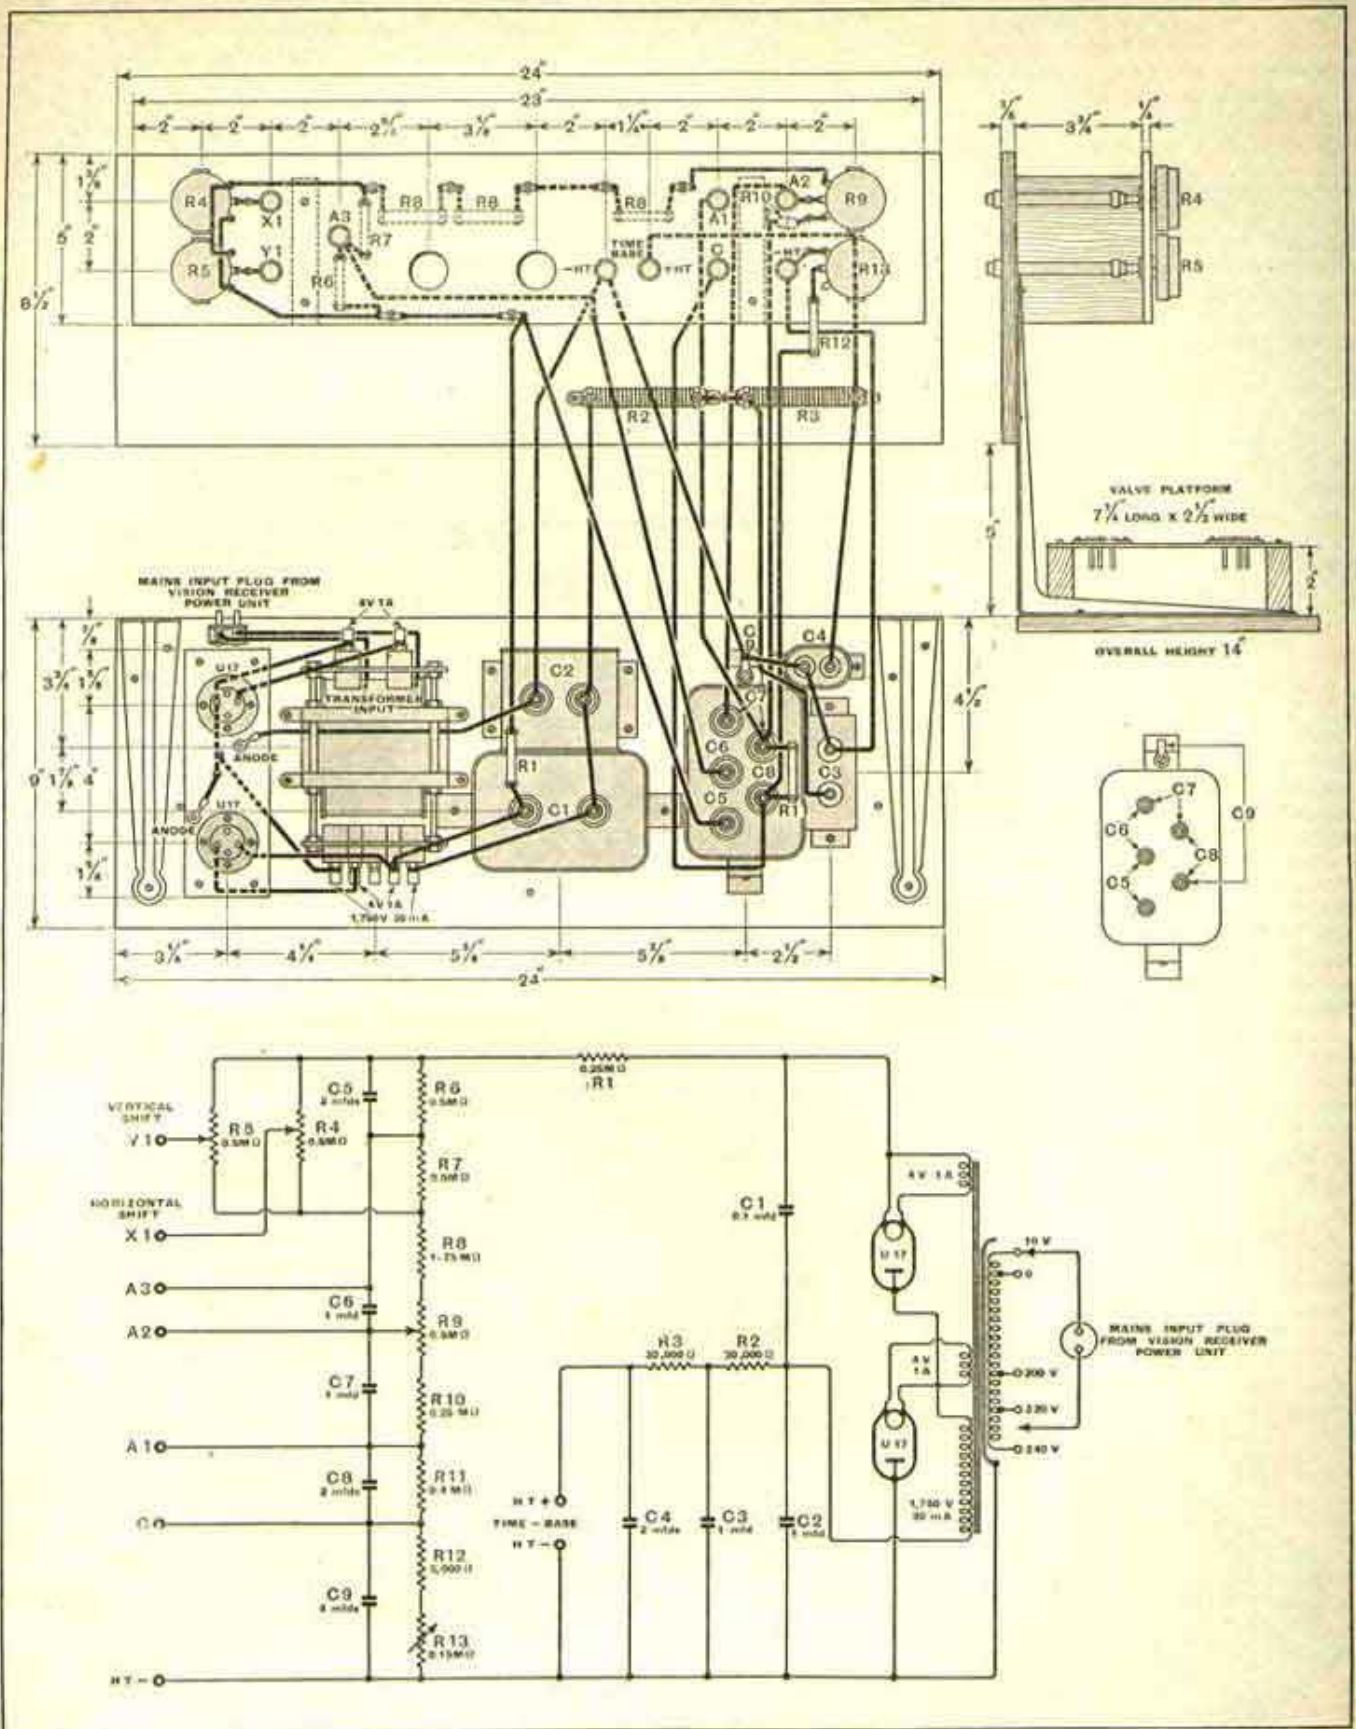

Fig. 3.—The theoretical circuit diagram is shown here as well as the practical wiring diagram.
**I**N the preceding articles the vision receiver time-base, and the vision receiver power pack have been described, and the high-voltage unit, which supplies HT for both tube and time-base, must now be dealt with. The circuit diagram appears in Fig. 3 and the mains input voltage is derived from the vision receiver power pack in which the delay switch is included. The mains transformer has two secondaries rated at 4 volts 1 ampere, for the filaments of the two U17 valves, and a winding rated at 30 mA. at 1,750 volts.